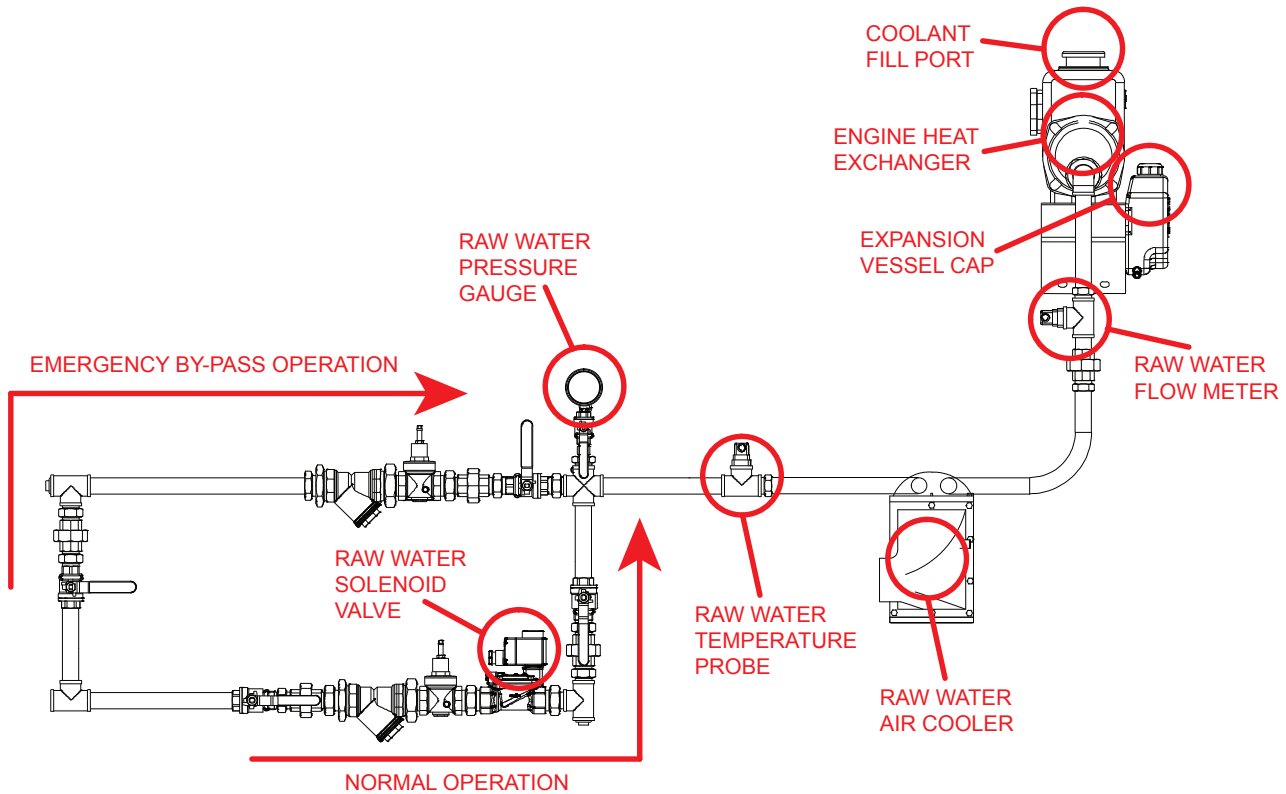

FIGURE 26 - EXTERNAL DIESEL ENGINE COOLING LOOP (WITH AIR COOLER)
- Remove the drain plug on the bottom of the diesel engine oil pan. See FIGURE 26.